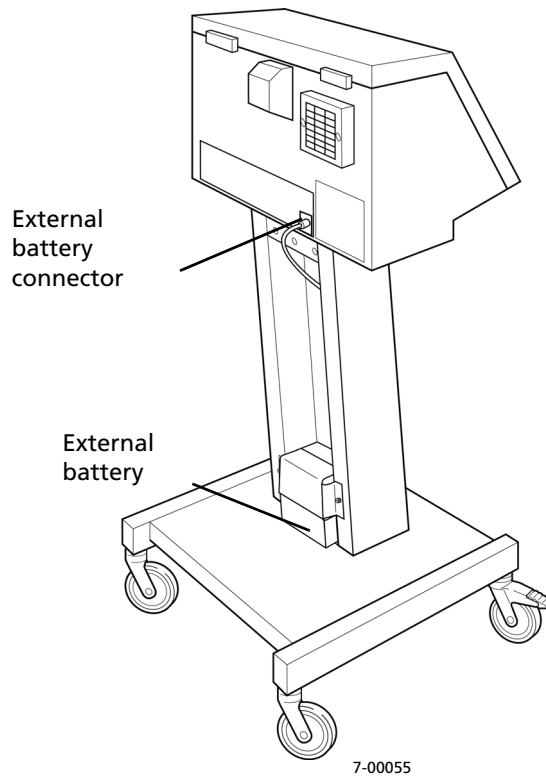

Figure 2-3. Plugging the external battery into the ventilator
2. Plug the external battery's cable into the connector (Figure 2-3).